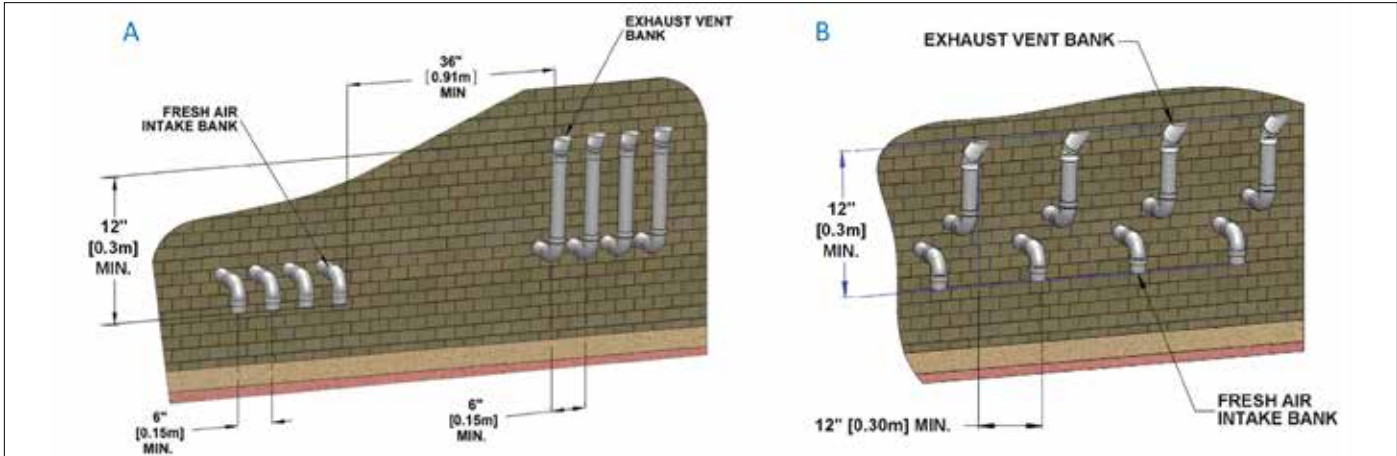

Figure 14: Sidewall vent termination - multiple vent piping configuration
- Install multiple vent SST installations level with one another and maintain at least the minimum separation distances *shown in Figures 14 and 15*. The Terminals shall not be stacked vertically.